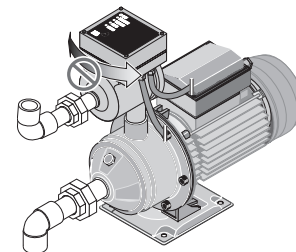

Figure 4: DO NOT try to turn the Automatic Pressure Controller. It is aligned at the factory and twisting it will break the glue joint and cause a leak.
8. Install the elbows in the main water supply line. Point them toward the pump. See Figure 4.